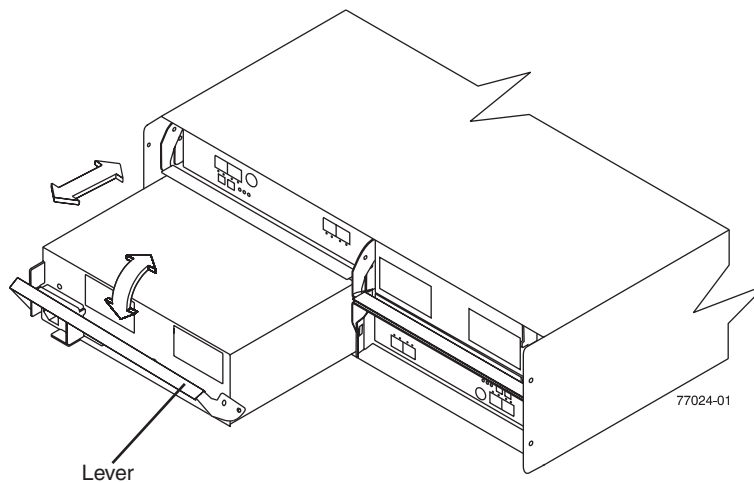

Figure 28. Replacing a power supply and fan unit
1. Slide one power supply and fan unit into the storage subsystem. Be sure to replace the power supply and fan units so that the lever on each power supply and fan unit opens toward the interior of the storage subsystem, as shown in Figure 28. Do not force fit. The power supply and fan unit is designed to prevent it from being inserted into the chassis incorrectly.
**Attention:** Be sure that the lever is pulled straight out as you slide the power supply and fan unit into the storage subsystem, as shown in Figure 28. The left and right power supply and fan units are seated in the DS4700 Express chassis in opposite orientations. If you cannot fully insert the power supply and fan unit into the power supply and fan unit bay, flip it 180° and reinsert it.